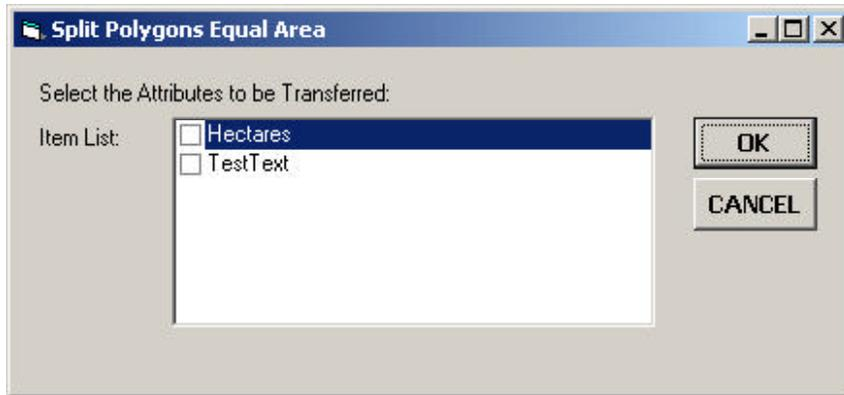

Figure 7
Having clicked at the *OK* button, the program will either begin the process of subdividing the polygon(s) or present a list dialog box similar to that shown in Figure 7.
► **13 Click** in the square to the left of the attribute(s) to be transferred, see Figure 7. A check mark in the square denotes that the attribute is to be transferred to the new polygons.